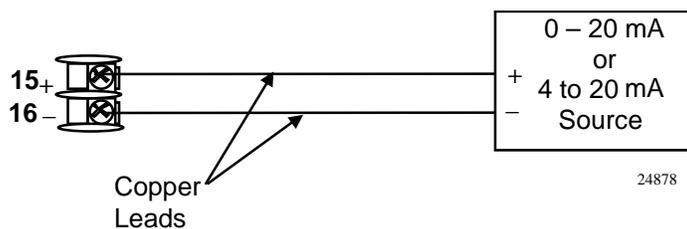

Figure 8-7 Wiring Connections for 4 to 20 mA Input – Input 2
- Use the copper leads and connect the calibrator to the rear terminals of Input #2 (see Figure 8-7).